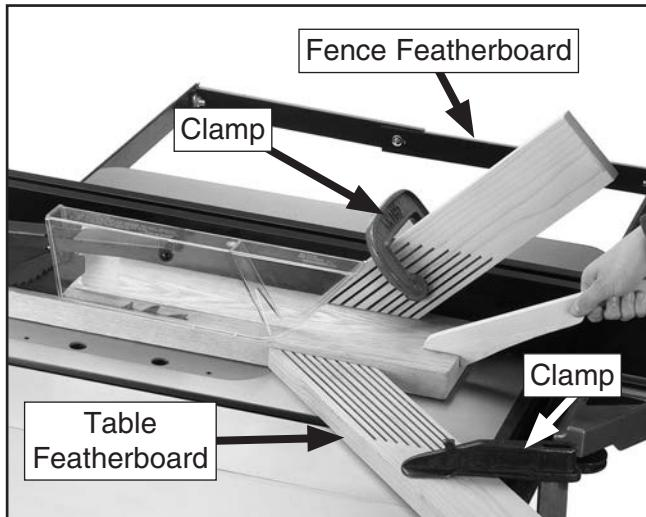

Figure 81. Example of featherboards secured with clamps.
3. Place a featherboard on table away from blade so all fingers point forward and contact workpiece (see **Figure 81**).